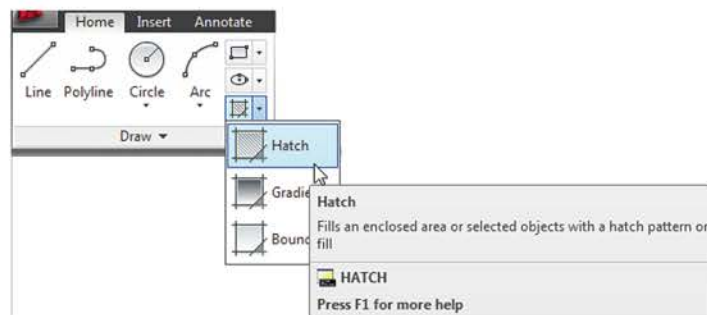
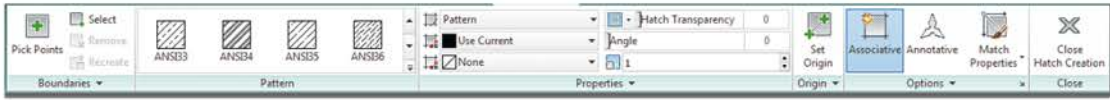

Fig. 8.11 The Hatch tool icon and tooltip from the Home/Draw panel
Fig. 8.12 The Hatch Creation tab and ribbon
5. Make the **Hidden** layer current and add hidden detail lines as shown in Fig. 8.12.
1. Call the **Hatch** tool with a *left-click* on its tool icon in the **Home/Draw** panel (Fig. 8.11). A new tab **Hatch Creation** is created and opens the **Hatch Creation** ribbon (Fig. 8.12), but only if the ribbon is active.